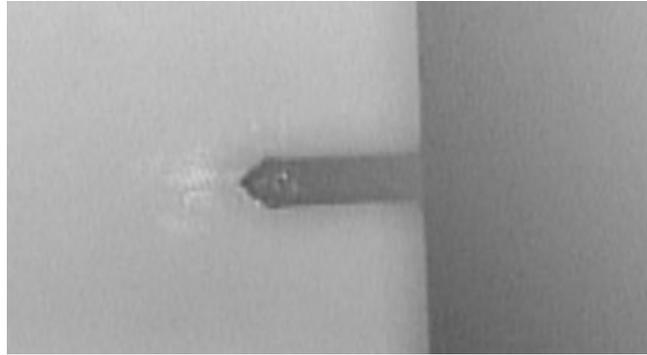

Figure 3.24. Centering the laser spot on the cantilever.
- 6 Watch the video monitor as you adjust the laser alignment knobs on the scanner head to bring the laser spot onto the back of the cantilever. The laser spot should be centered on the cantilever, not too close to the end, as shown in Figure 3.24.